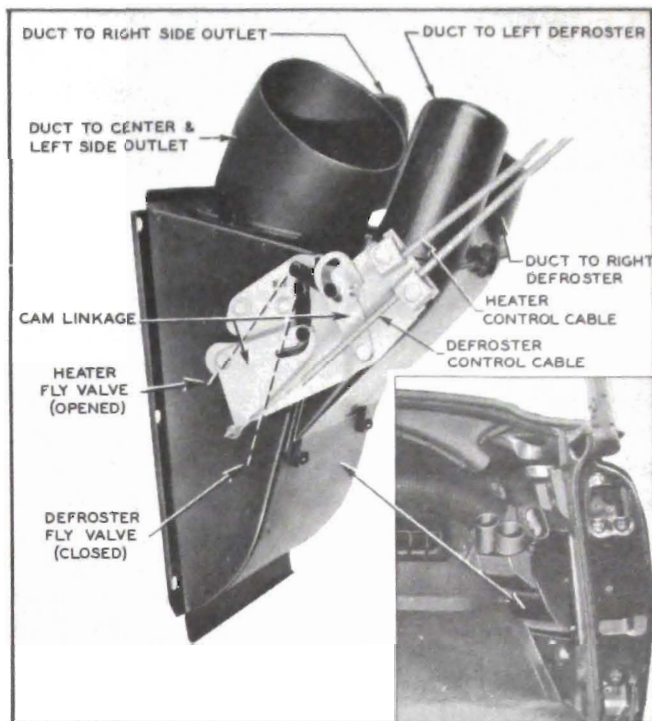

Figure 11-24—Heater and Defroster Core Inner Housing
The heater and defroster valves located in the inner heater and defroster core housing are operated by a cam type linkage which is designed to prevent valve flutter noise. See figure 11-24.
- (b) The heater air valve (in the heater core inner housing) should be full open (with the defroster air valve closed). See figure 11-24.